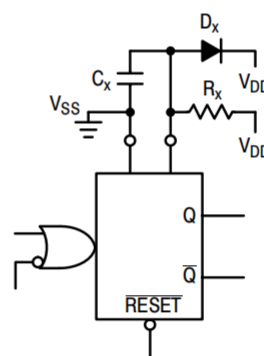

Figure 11. Use of a Diode to Limit Power Down Current Surge
7. If $C_X > 15 \mu\text{F}$, use discharge protection diode per Fig. 11.
When a more rapid decrease of V_{DD} to zero volts occurs, the CD14538 can sustain damage. To avoid this possibility use an external clamping diode, D_X , connected as shown in Fig. 11.